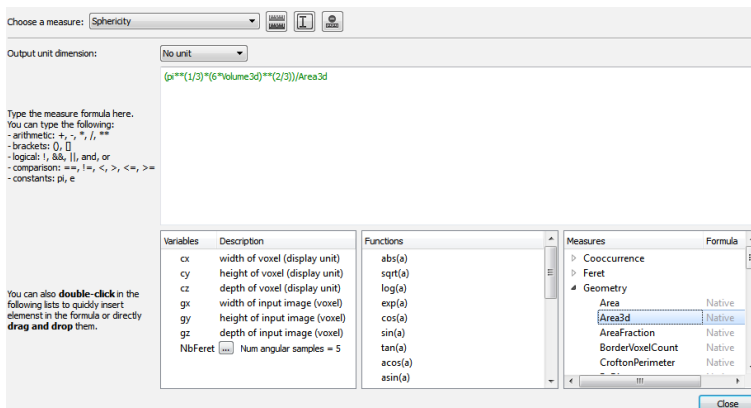

Figure 4.55: Measure edition
- Enter the sphericity formula in the dedicated field of the panel (see Figure 4.55).